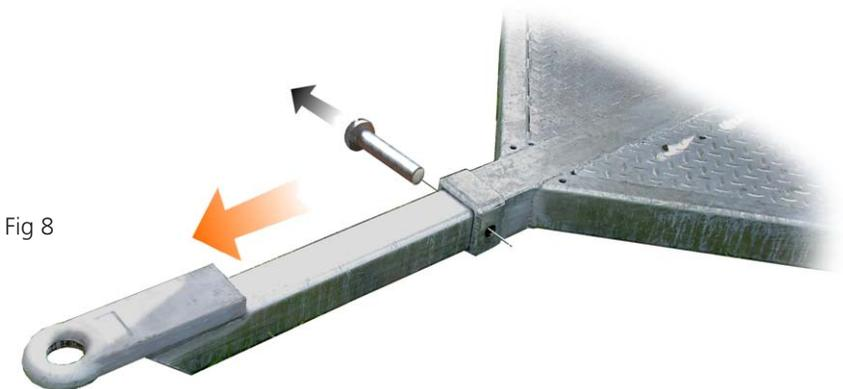

Fig 8
12. Move the tractor away and detach the drawbar from the unit by removing the retaining pin, Fig 8, and sliding the eye section clear of the socket.